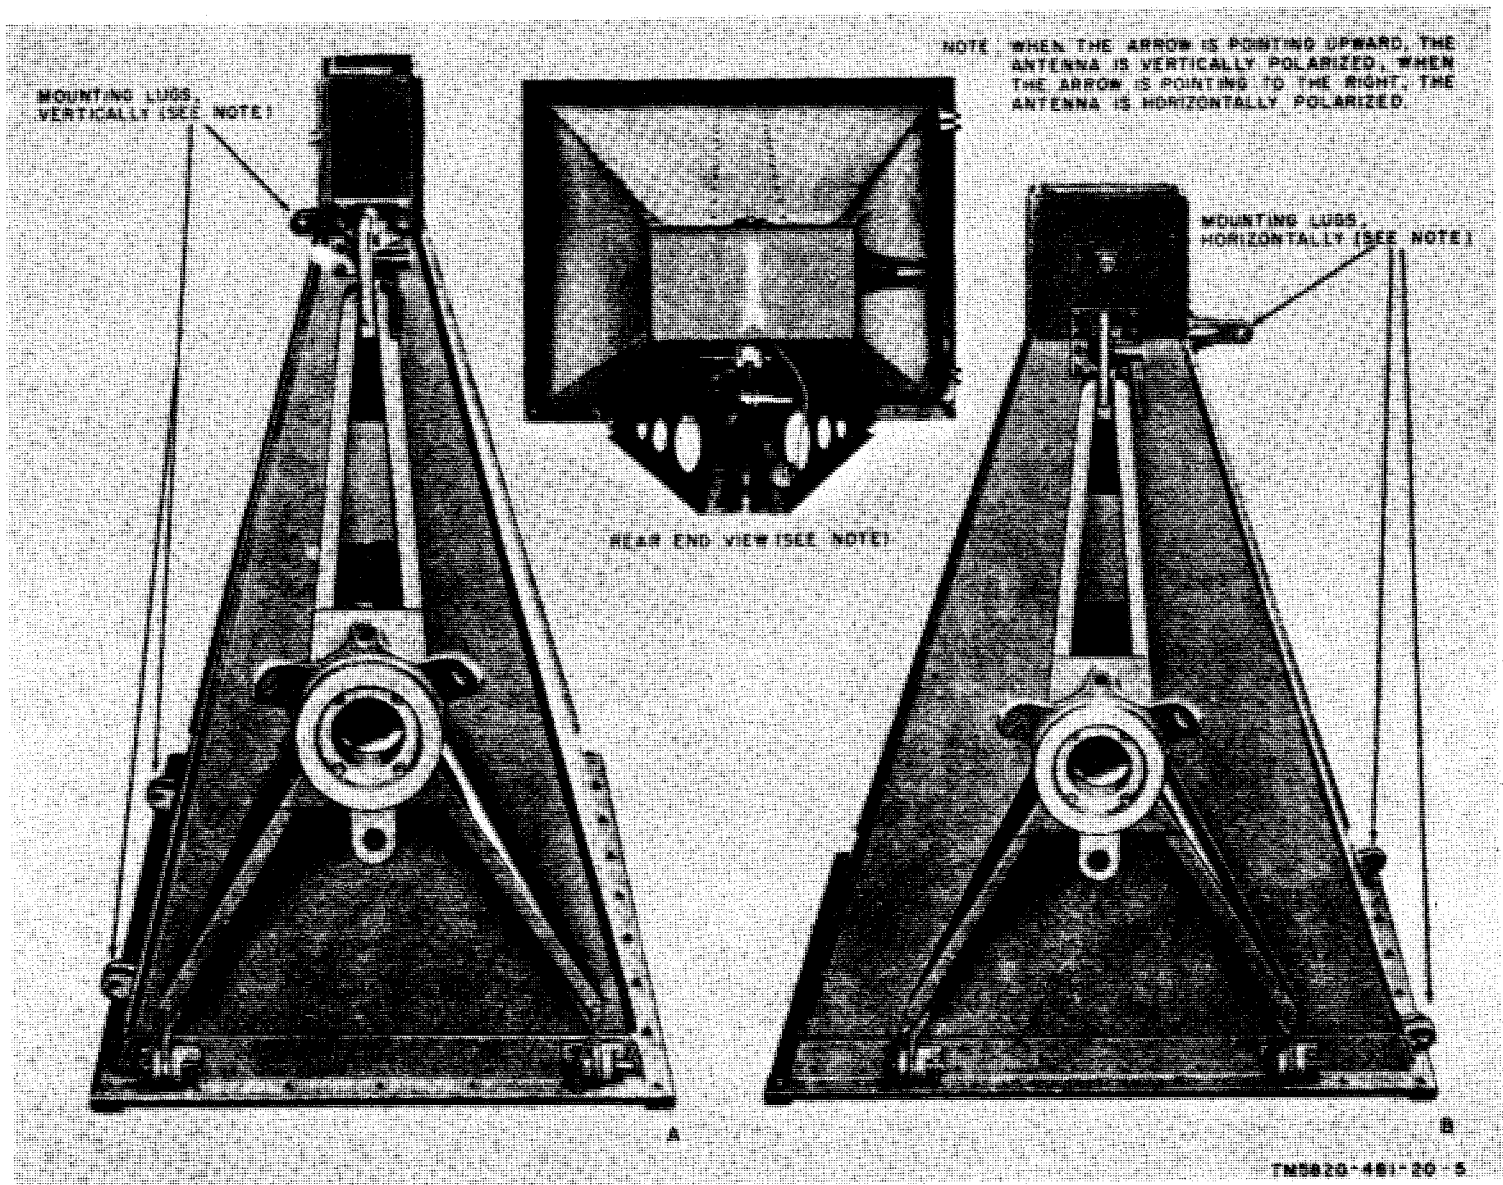

Figure 2-4. Antenna AT-903/G, mounting details.
(figs. 2-4 and 2-5)
Antenna AT-903/G is provided with a removable three-legged mounting frame (fig. 2-4), which is attached to the antenna horn for either horizontal or vertical polarization, and also provides for adjustment of the angle
a. Polarization Adjustment (fig. 2-4). Note that for vertical polarization the mounting